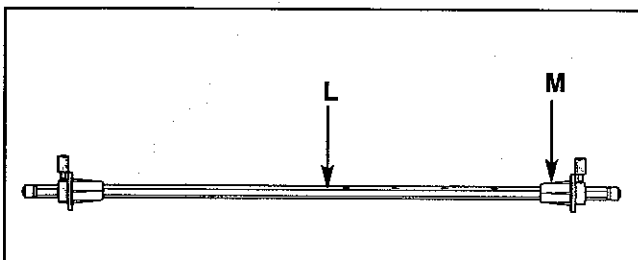

Figure 5
L. FILM SHAFT: The film shaft holds the supply roll and the adapters with locking collars hold the rolls of film on the shaft, (Figure 5).
M. CORE ADAPTERS: Align the film on the film shaft, (Figure 5) for various widths of roll film